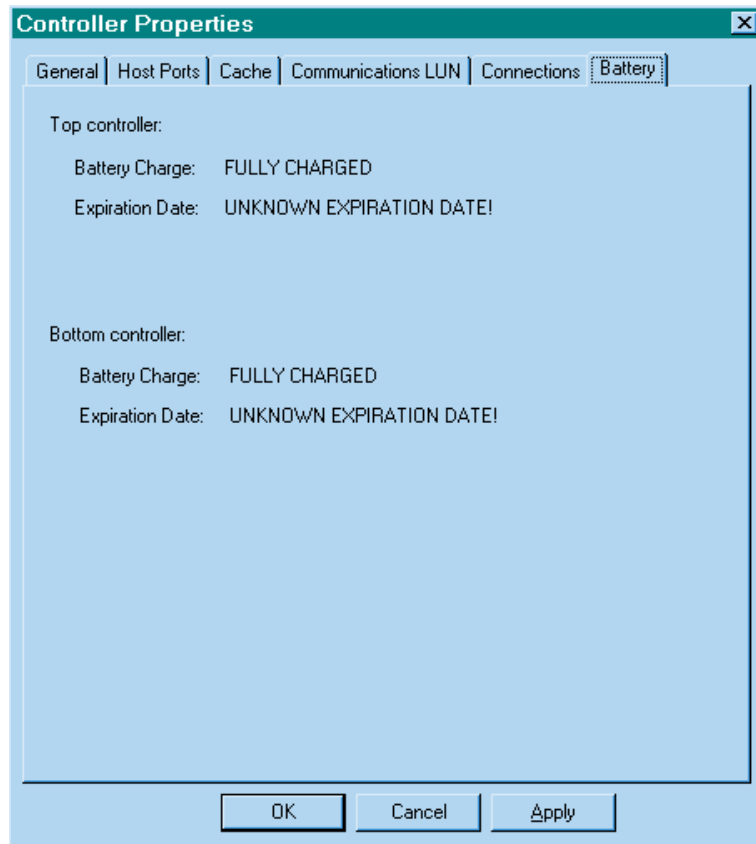

Figure 2-12. Battery controller properties tab
6. Click the *Connections* tab (Figure 2-12).